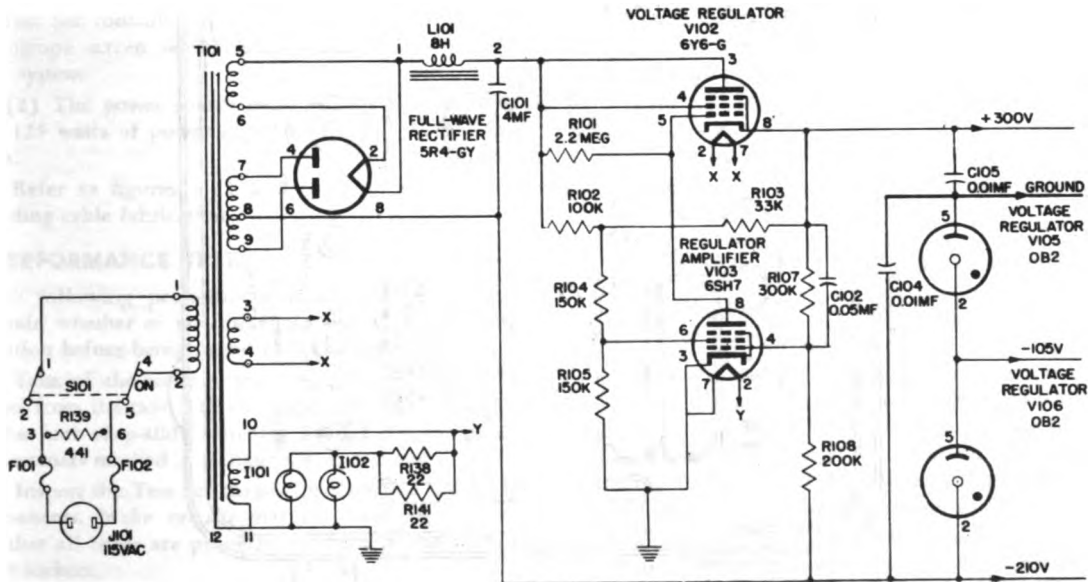

Figure 2-24. Power Supply Circuit—Simplified Schematic
(5) POWER SUPPLY CIRCUIT *(figure 2-24).*